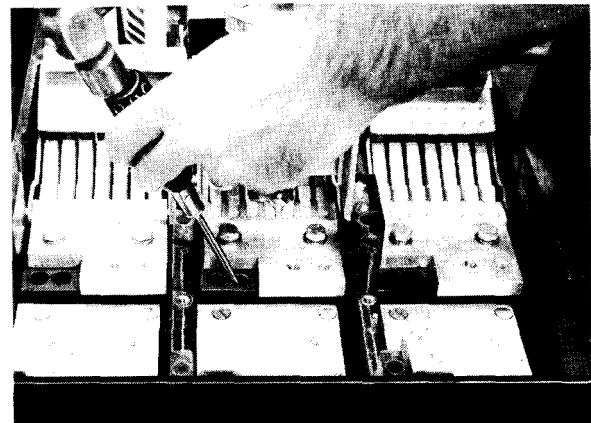

Fig. 13. Right knockout removal, center pole.
2. Remove the right-hand knockout, in the center pole of the breaker base, using screwdriver and hammer as shown in Fig.13. Remove all debris from breaker.